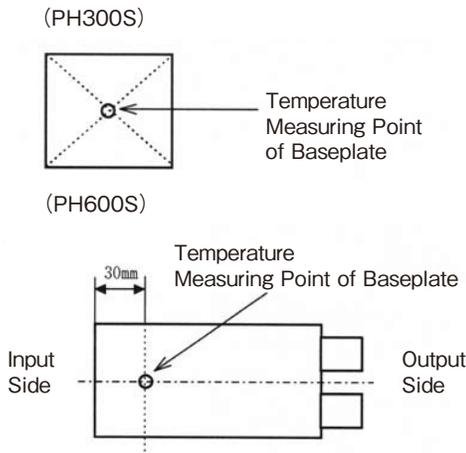

Figure 14-2 Temperature Measurement Point of Baseplate
- 2) Maximum baseplate temperature is 100°C. Confirm it at the measuring point shown as Figure14-2 in the worst operating condition.